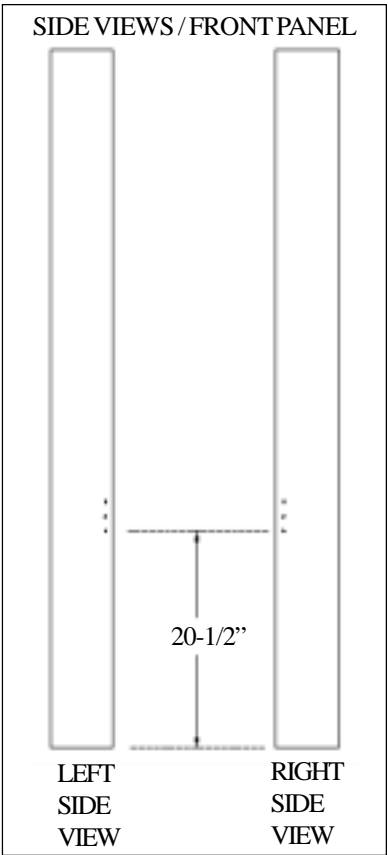
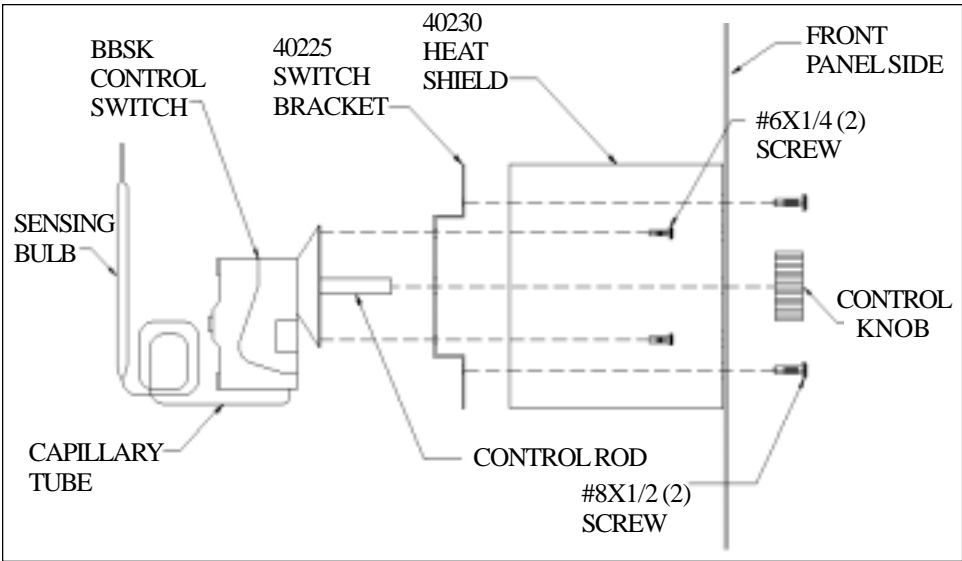
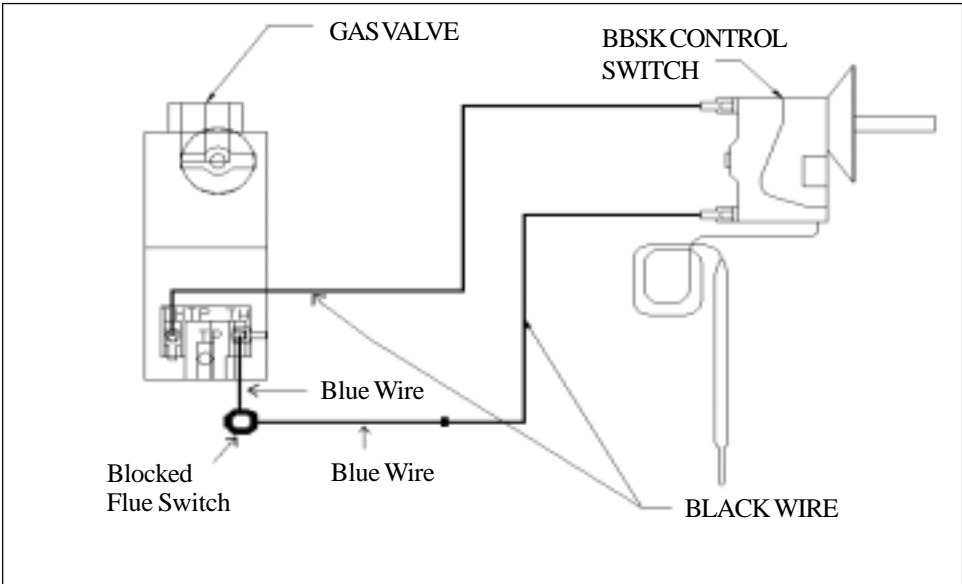

FIGURE 9
FIGURE 10
FIGURE 11
- STEP 2.** On selected side, locate three (3) vertical dimples beginning approximately 20-1/2" above bottom of the front panel. See Figure 9.
- STEP 3.** Using these three (3) dimples as locator, drill three 1/4" holes.
- STEP 4.** Remove the BBSK control switch from the packing set. See Figure 10.
- STEP 5.** Secure P/N 40225 switch bracket to the BBSK control switch using two (2) #6x1/4" screws provided. See Figure 10.
- STEP 6.** Place BBSK control switch inside front panel, align engagement holes with clearance holes in P/N 40230 heat shield and the 1/4" drilled holes in the front panel. Attach using two (2) #8x1/2" screws provided. Make sure heat shield is between the BBSK control switch and the heat exchanger.
- STEP 7.** Connect each end of the black wires to the two outside terminals on the BBSK control switch, route wires down the inside of the front panel. See Figure 11.
- STEP 10.** Insert the control knob onto the control rod. See Figure 10.
- STEP 12.** Connect one black wire to the stripped end of the blue blocked flue switch wire. Connect the other black wire to the "TH/TP" terminal on the gas valve. See Figure 11. **NOTE: If you are replacing an existing wall thermostat, you must first disconnect the thermostat wires from the gas valve.**